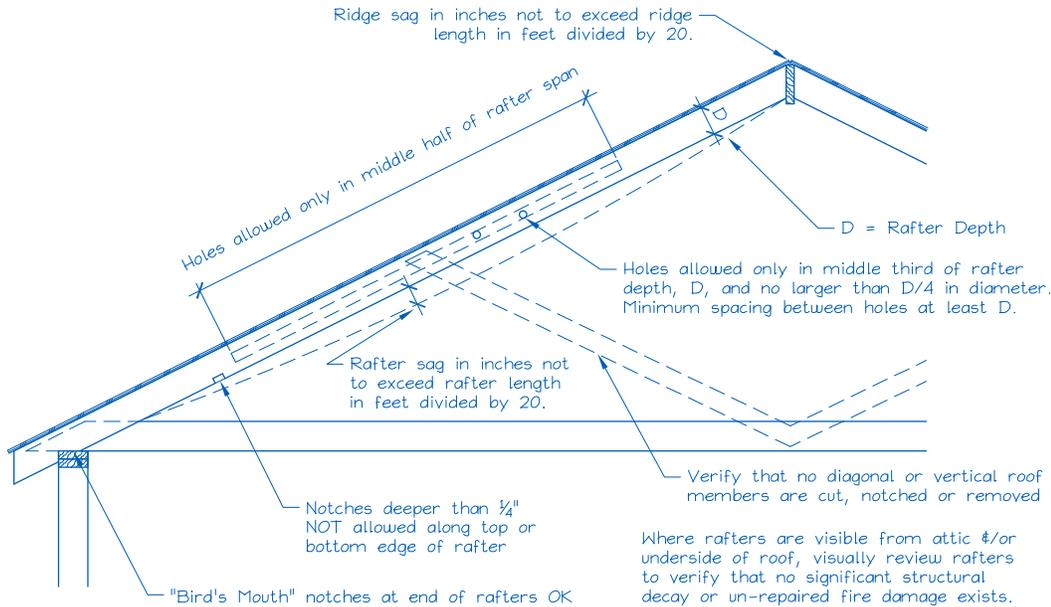

Figure 2. Sample Solar Panel Array and Anchor Layout Diagram (Roof Plan).
- Anchors are also known as "stand-offs", "feet", "mounts" or "points of attachment". Horizontal anchor spacing is also known as "cross-slope" or "east-west" anchor spacing (see Figure 2).
E. Is a roof plan of the module and anchor layout attached? (see Figure 2) Y N
- 1) Proposed anchor horizontal spacing (see Figure 2): _____' - _____"ft-in